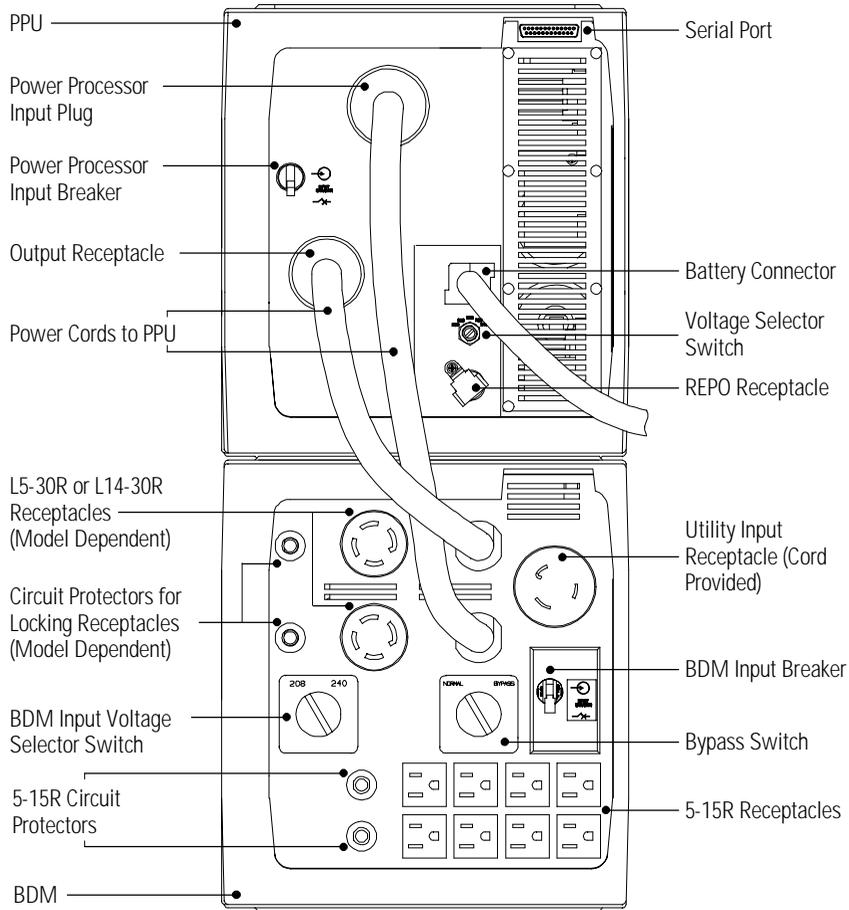

Figure 19. UPS with BDM Rear Panel Connections
1. Turn the Bypass switch on the BDM to the BYPASS position (see Figure 19). The BDM is now powering your equipment from utility power.
3. Switch the PPU input breaker to the OFF (O) position. The UPS enters Battery mode for several seconds. The  indicator turns off and the UPS shuts down.
5. Switch the circuit breaker on all battery modules to the OFF (O) position.
4. Plug the input and output cords of the BDM into the power connectors on the PPU as shown in Figure 19 on page 47.